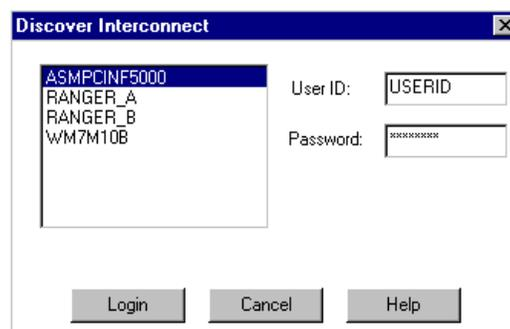

Figure 78. Discover Window
5. Click the **Discover** button. Figure 78 appears: